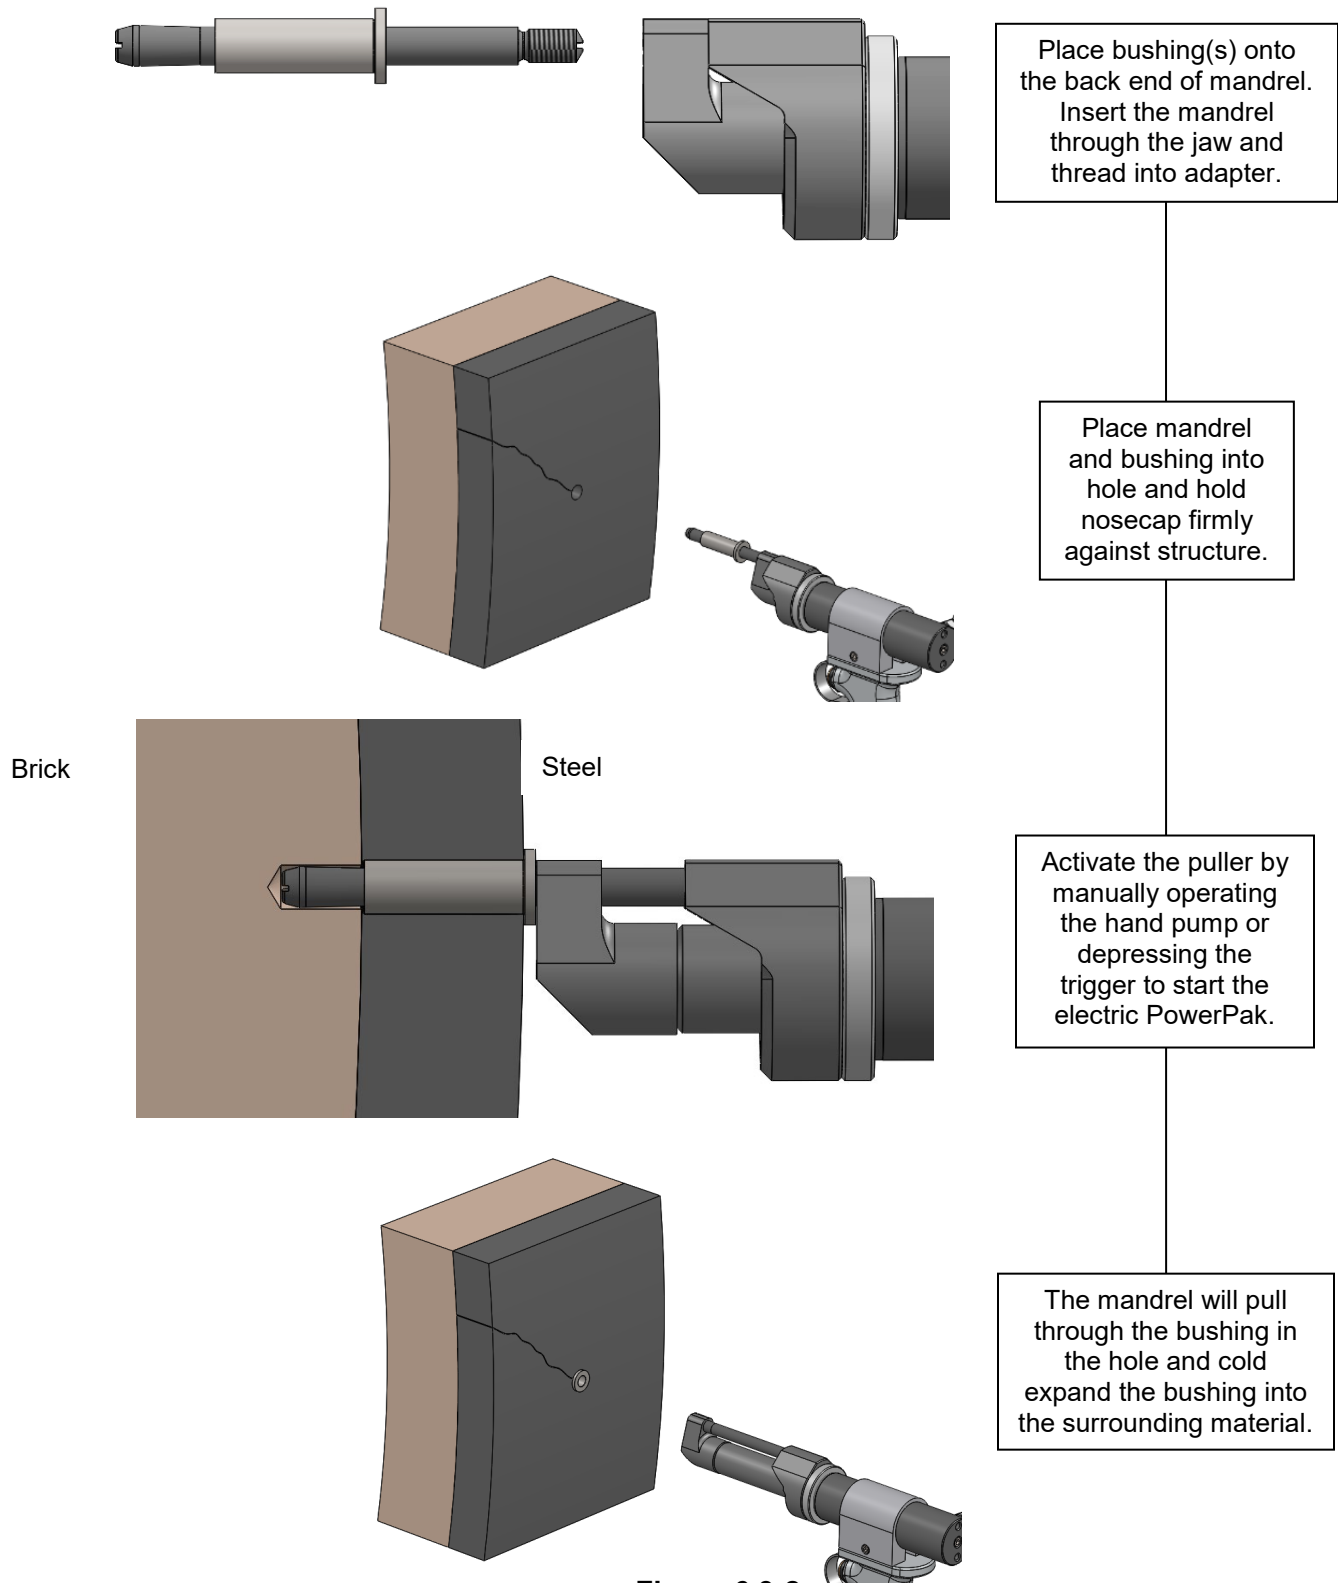

Figure 6.3-2
2. Using the following steps in Figure 6.3-2, cold expand the StopCrackEX bushing(s) into the hole.